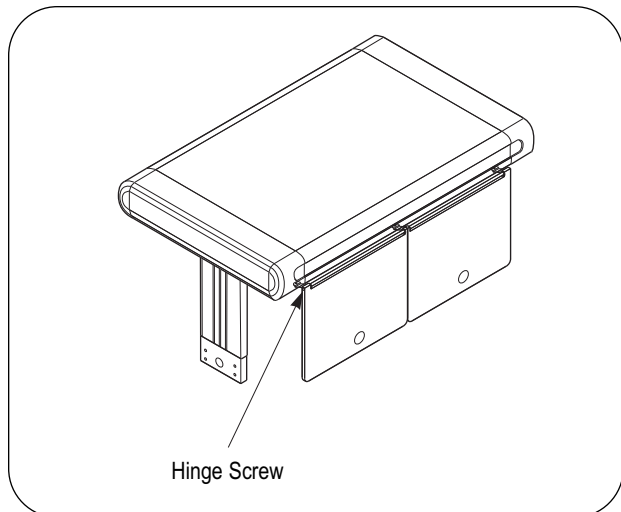

Figure 11. Flip-Up Door – Top View
3. Attach the door assembly onto the unit by passing the unassembled hinge screw through the hole on one of the previously installed mounting brackets (use the center bracket if it is being used). Then hold the door assembly in place between the two mounting brackets, and re-assemble the hinge screw to the aluminum hinge through the hole in the opposite mounting bracket. Apply Loctite, or equivalent to this screw and reassemble. Repeat for additional door. (See Figure 11.)